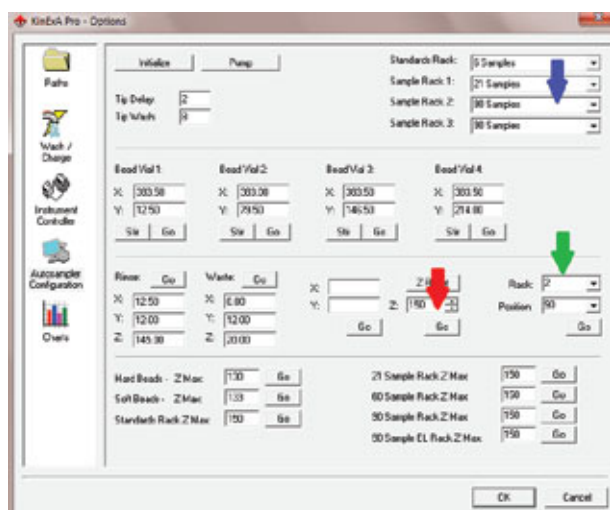

Figure 1A. Software settings for Autosampler Tip Alignment (Old software version)
3. Open the KinExA Pro software. Under the **Tools** menu, select **Options**. The prompt box allows the user to select different options. Select **Autosampler Configuration**. Once autosampler configuration is selected, a calibration screen will appear to the right of the options (**Figures 1A & 1B**).